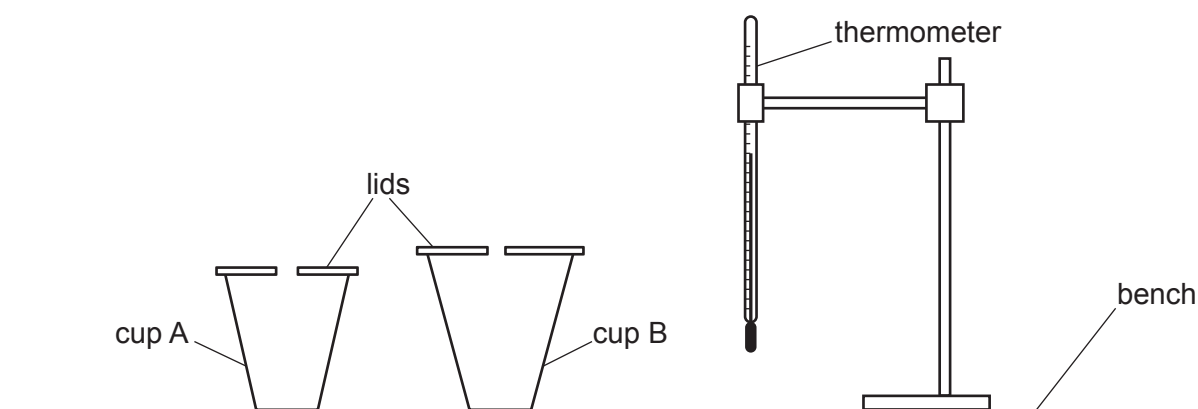

Fig. 2.1
2. The thermometer, clamp, boss and stand must be set up for candidates as shown in Fig. 2.1. The thermometer bulb must be well below the  $75\text{ cm}^3$  level of the cups. Candidates must be able easily and safely to read temperatures up to  $100\text{ }^\circ\text{C}$  and to move the thermometer in and out of the cups.
Check that the apparatus is intact and is arranged as in Fig. 2.1.